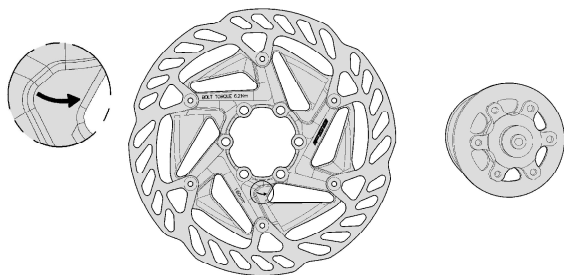

Fig. 1
4. Place the disc on the hub mounting surface with the markings facing outward from the spokes. Ensure the arrow on the disc is pointing in the direction of forward wheel rotation. (Fig 1)